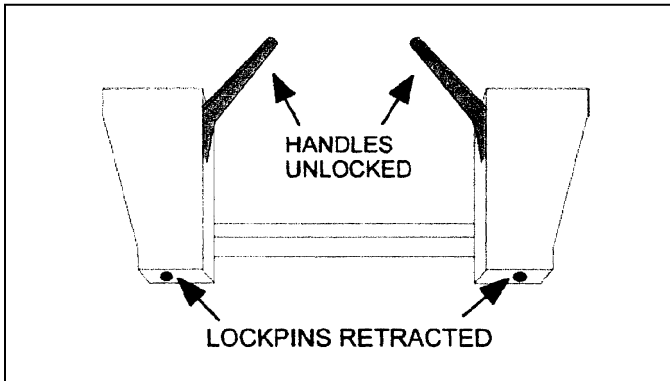

Figure 1 – Quick Attach Coupler Handles – Unlocked
2. The quick attach coupler handles should be in the unlocked position with lock pins retracted, Figure 1.